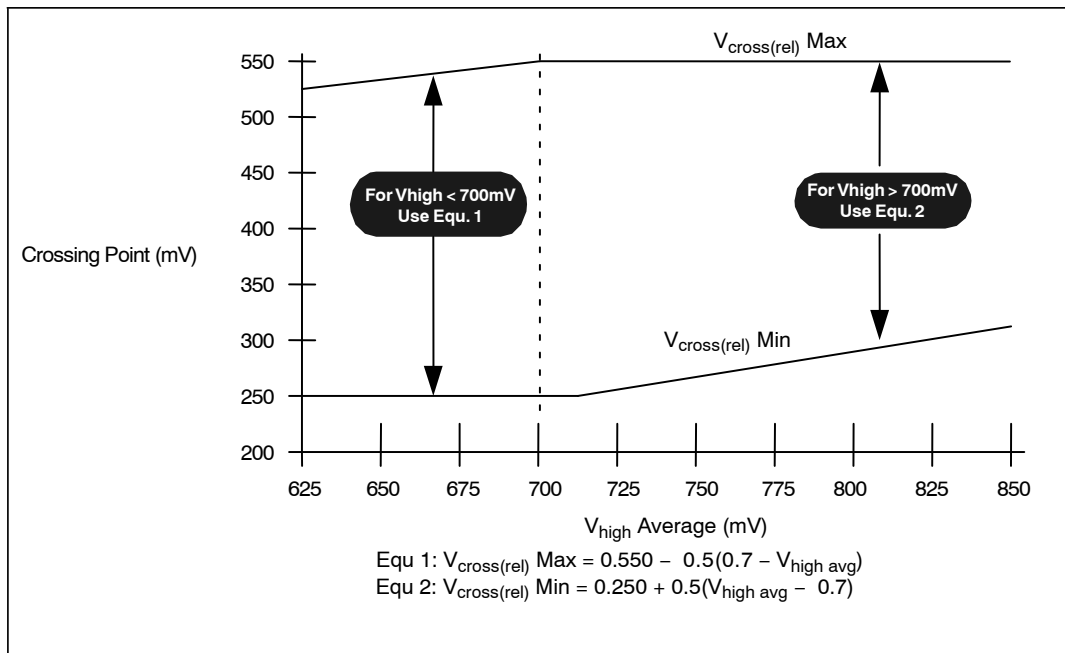

Figure 16.  $V_{\text{cross}}$  Range Clarification (Note 40)
16. Vcross(rel) Min and Max are derived using the following,  $V_{cross(rel)}\text{ Min} = 0.250 + 0.5 (V_{high\ avg} - 0.700)$ .  $V_{cross(rel)}\text{ Max} = 0.550 - 0.5 (0.700 - V_{high\ avg})$ . (see Figure 16 for further clarification).